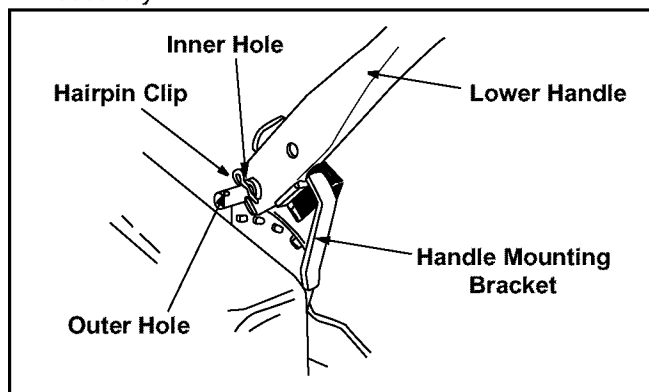

Figure 5
- Using a pair of pliers, squeeze one leg of the lower handle against the handle mounting bracket. Insert the hairpin clip into the inner hole on the weld pin. Repeat on the other side. Refer to Figure 5.